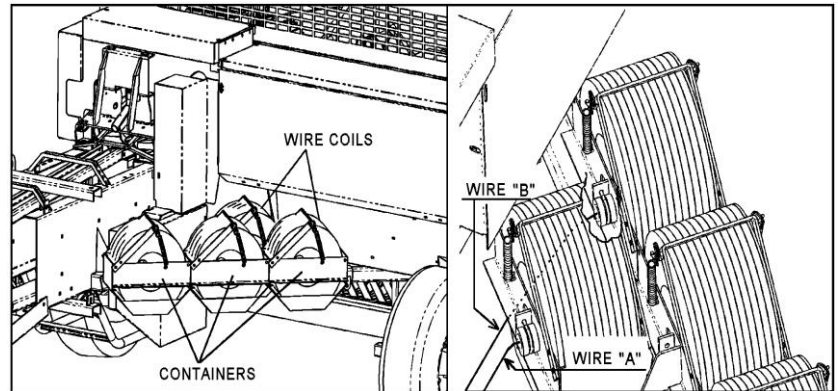

Fig. 21
1. Insert the coiled, annealed and oiled baling wire coils size n° 12 for pick-up balers into the special containers (Fig. 21).